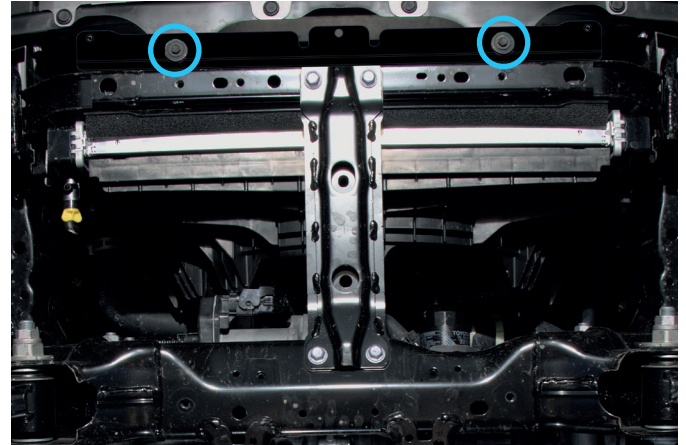

Fig. 2
2. Install mounting bracket (item 2) and fix it using factory bolts from step 1 as shown in fig.2.